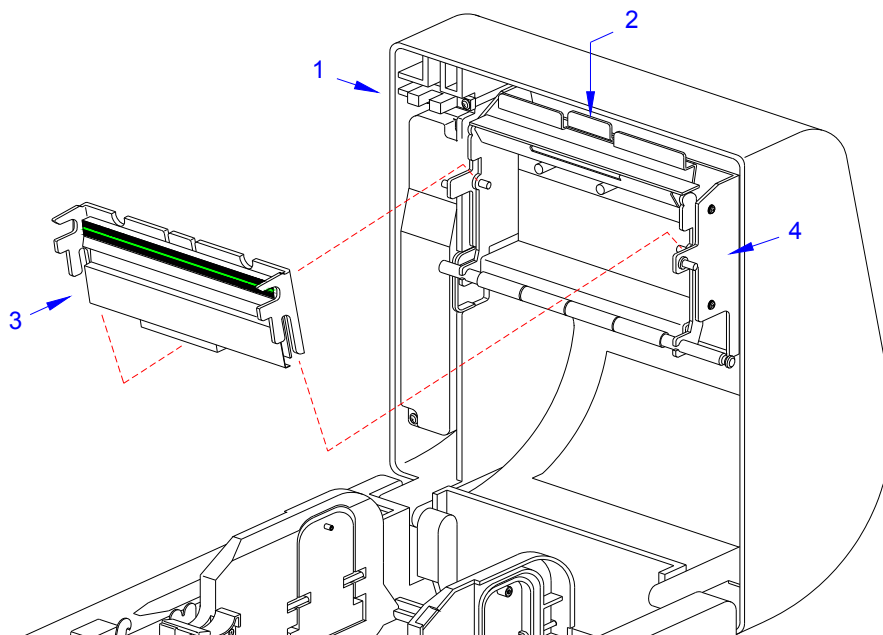

Figure 4-1, Print Head Replacement
- 2 Lift up the top housing cover (1) (See Figure 4-1) to access the print head assembly.
- 3 Press the central release latch (2) to release the print head (3) from the bracket (4).